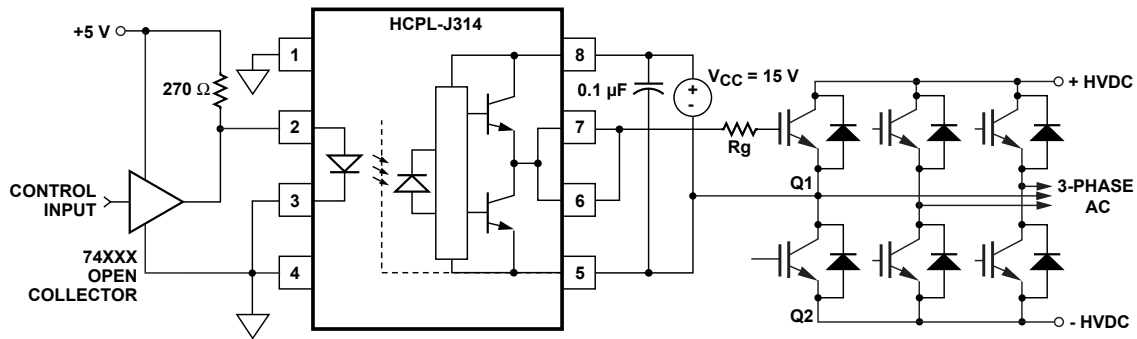
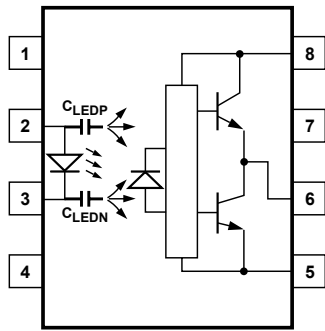
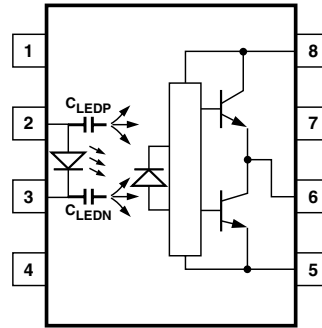
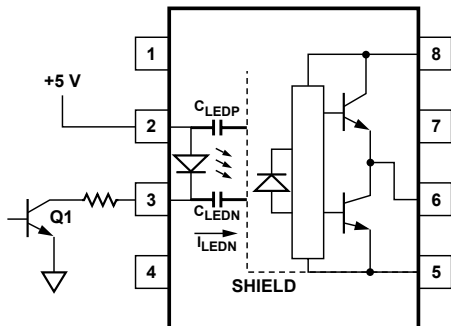

Figure 19. Recommended LED drive and application circuit for HCPL-J314.
Figure 21. Optocoupler input to output capacitance model for unshielded optocouplers.
Figure 22. Optocoupler input to output capacitance model for shielded optocouplers.
Figure 24. Not recommended open collector drive circuit.
To keep the IGBT firmly off, the HCPL-J314 has a very low maximum  $V_{OL}$  specification of 1.0 V. Minimizing  $R_g$  and the lead inductance from the HCPL-J314 to the IGBT gate and emitter (possibly by mounting the HCPL-J314 on a small PC board directly above the IGBT) can eliminate the need for negative IGBT gate drive in many applications as shown in Figure 19. Care should be taken with such a PC board design to avoid routing the IGBT collector or
**Step 1:** Calculate Rg minimum from the IOL peak specification. The IGBT and Rg in Figure 19 can be analyzed as a simple RC circuit with a voltage supplied by the HCPL-J314.
where  $K_{ICC} \cdot Q_g \cdot f$  is the increase in ICC due to switching and KICC is a constant of 0.001 mA/(nC\*kHz). For the circuit in Figure 19 with IF (worst case) = 10 mA, Rg = 32 Ω, Max Duty Cycle = 80%, Qg = 100 nC, f = 20 kHz and TAMAX = 85°C:
Without a detector shield, the dominant cause of optocoupler CMR failure is capacitive coupling from the input side of the optocoupler, through the package, to the detector IC as shown in Figure 21. The HCPL-J314 improves CMR performance by using a detector IC with an optically transparent Faraday shield, which diverts the capacitively coupled current away from the sensitive IC circuitry. However, this shield does not eliminate the capacitive coupling between the LED and optocoupler pins 5-8 as shown in Figure 22. This capacitive coupling causes perturbations in the LED current during common mode transients and becomes the major source of CMR failures for a shielded optocoupler. The main design objective of a high CMR LED drive circuit becomes keeping the LED in the proper state (on or off) during common mode transients. For example, the recommended application circuit (Figure 19), can achieve 10 kV/μs CMR while minimizing component complexity.
The open collector drive circuit, shown in Figure 24, can not keep the LED off during a  $+dV_{CM}/dt$  transient, since all the current flowing through  $C_{LEDN}$  must be supplied by the LED, and it is not recommended for applications requiring ultra high CMR1 performance. The alternative drive circuit which like the recommended application circuit (Figure 19), does achieve ultra high CMR performance by shunting the LED in the off state.